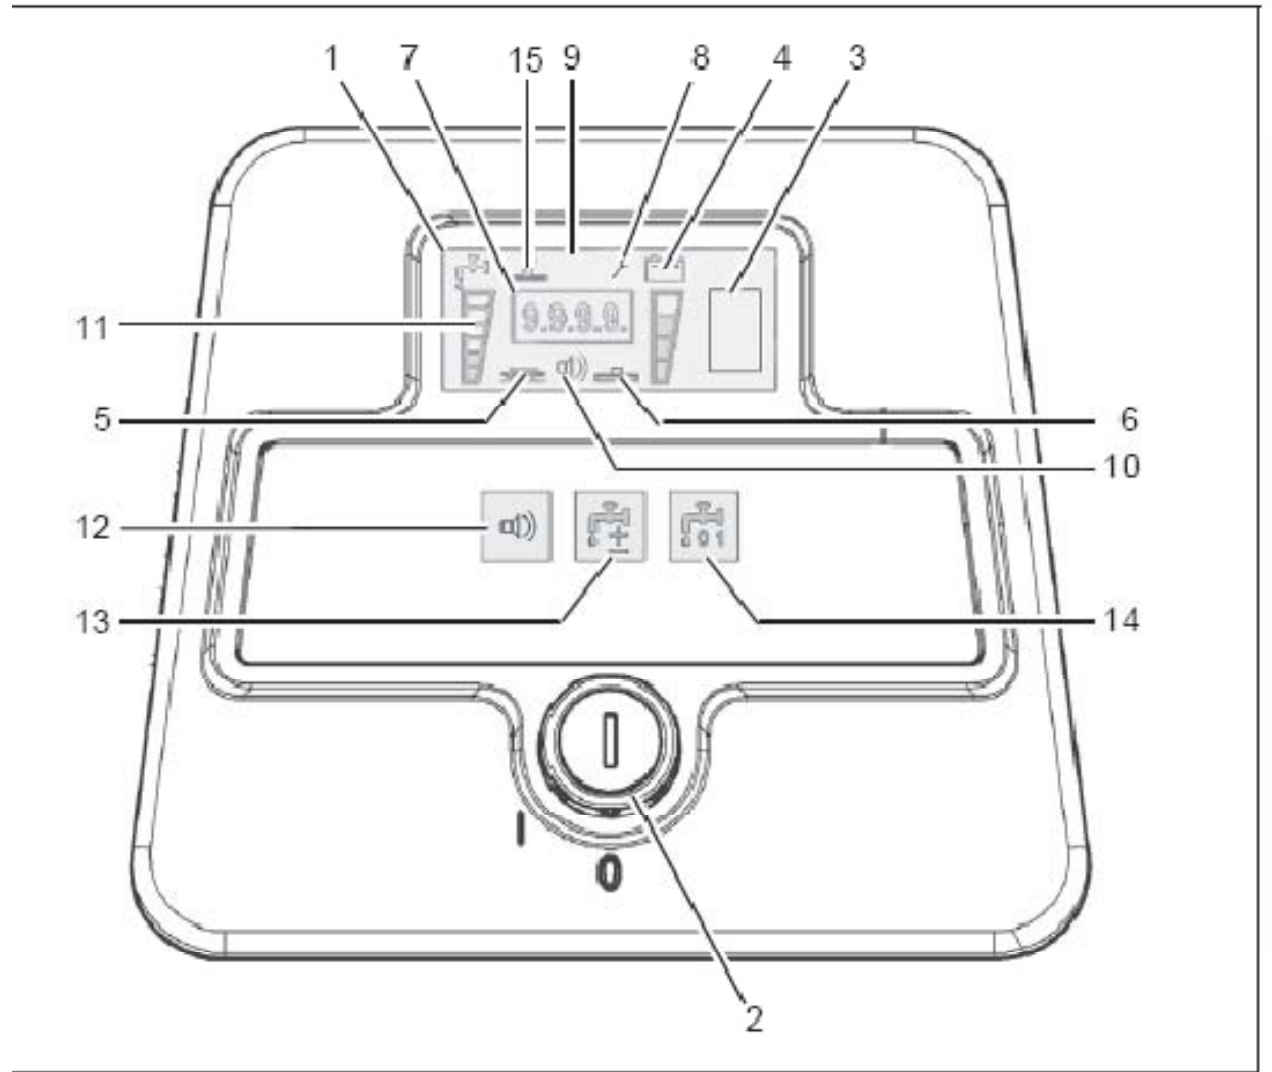

Fig.4
3. Switch on clean water supply by solution switch (Fig. 4/14).
4. Adjust clear water amount by means of metering switch (Fig. 4/13).
Display (Fig. 4/1)
Battery Charge Indicator (Fig. 4/3)
LSD Indicator (Fig. 4/4)
Symbol For Scrub Brush (Fig. 4/5)
Symbol For Vacuum Motor (Fig. 4/6)
Hour Meter (Fig. 4/7)
Service Indicator (Fig. 4/8)
Symbol For Silence Kit (optional) (Fig. 4/10)
Clean Water Metering Symbol (Fig. 4/11)
Silence Kit Switch (optional) (Fig.4/12)
Clean Water Metering Switch (Fig.4/13)
Clean Water Supply ON/OFF Switch (Fig. 4/14)
Scrubbing Tool Symbol (optional) (Fig. 4/15)